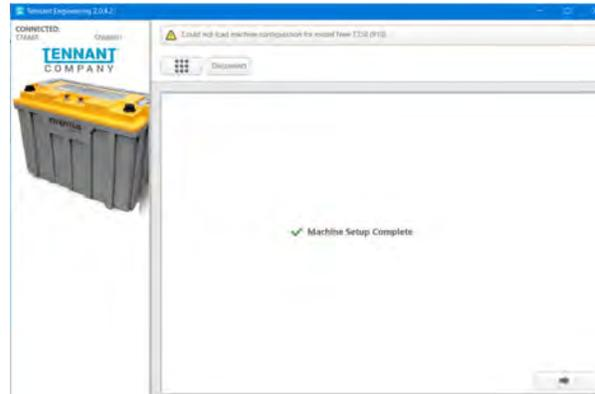

FIG. 60
58. A screen with “Machine Setup Complete” appears when the lithium battery firmware update is complete. (Fig. 60)